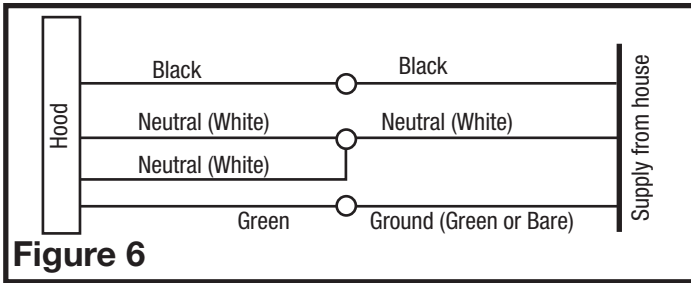

Figure 6
- Examine the wire compartment cover and select the most convenient wire entrance and remove the knock out. Feed the supply wire through the opening and install an appropriate strain relief. Connect the two loose White wires from the range hood to the White wire from the supply, and the loose Black wire from the range hood to the Black wire of the supply. Connect the ground wire (green or bare) from the supply to the green ground screw of the hood. Use approved methods for all connections (Figure 6).